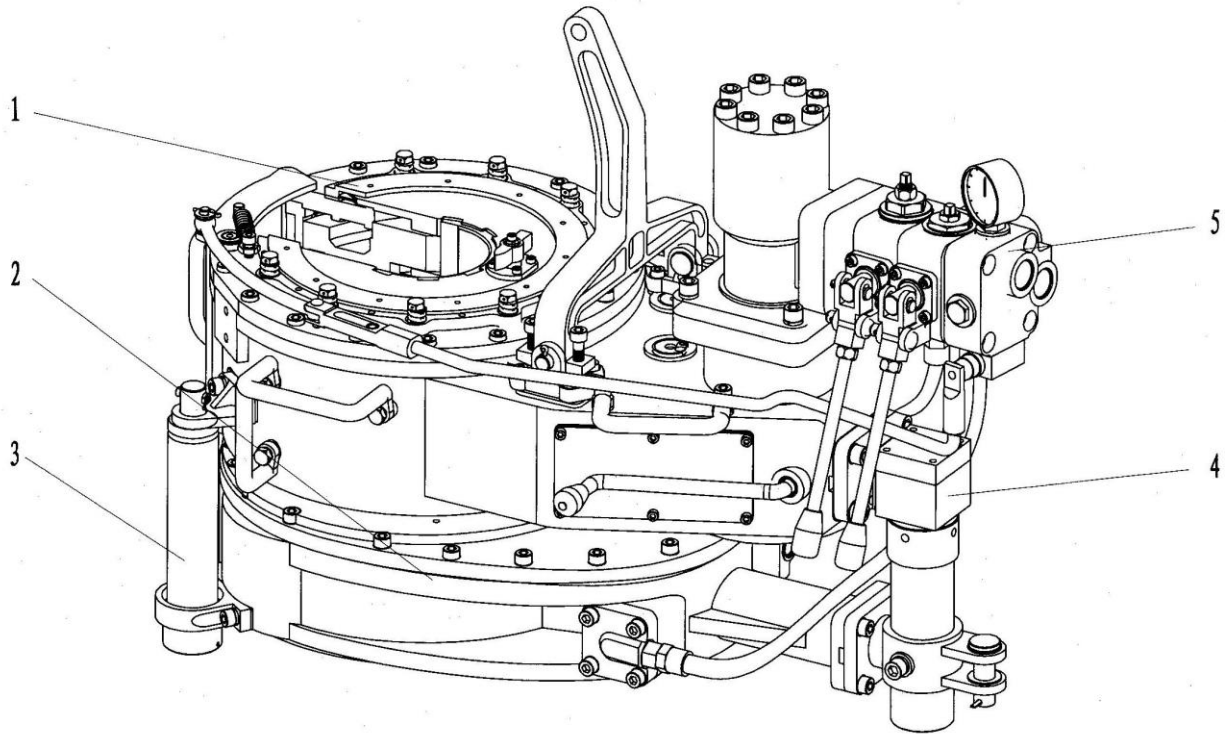

Fig.18
- 11.1 Assembly and parts list (Fig.18, Table 5)
11.1 Assembly and parts list (Fig.18, Table 5)